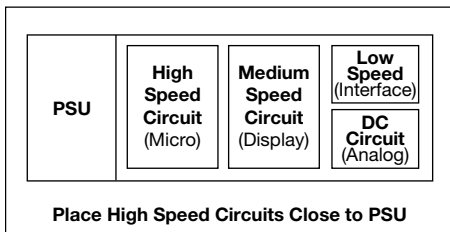

Fig. 9
- Place high speed circuits close to Power Supply Unit (PSU) and slowest sections furthest away to reduce power plane transients. (Fig. 9)